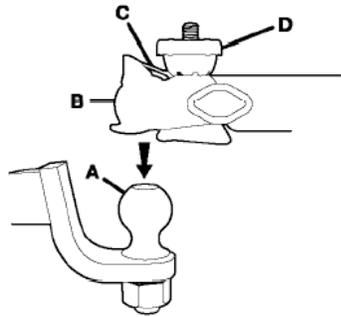

Fig. 2
Push down on the latch (C) and fully loosen hand wheel (D) by turning counter-clockwise. Lower the coupler (B) onto the hitchball (A) as shown. (Fig 2)